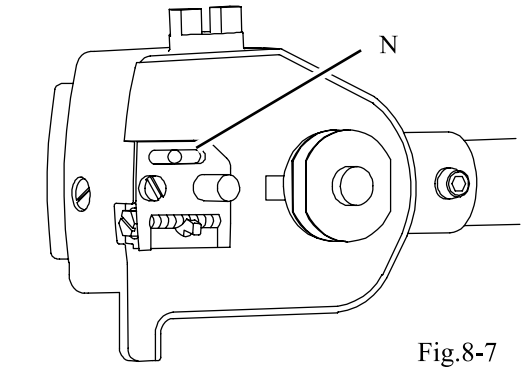

Fig.8-7
3. Clean the chain oil discharge port (N). (Fig.8-7)